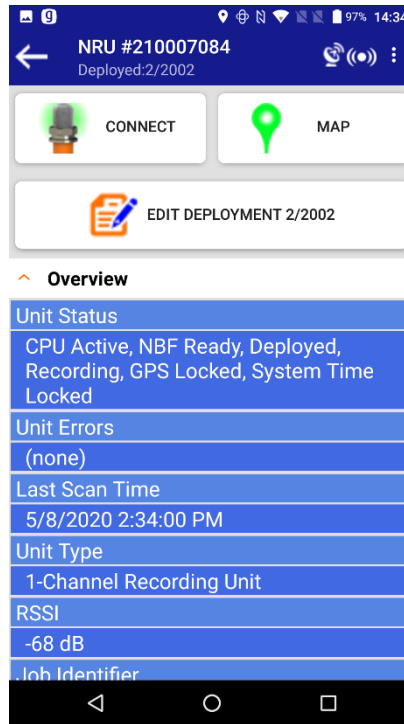

Figure 28
- In the top tool bar, the NRU serial number will be shown as well as the Deployment status as of the last scan of status, including assigned line and station number. In the example above in figure 28, NRU #210007084 was deployed at line 2 station 2002.